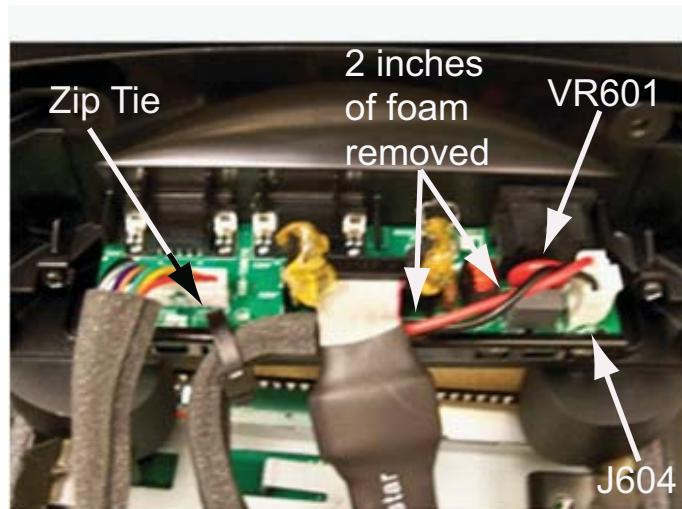

Figure 3.
**2.6** Zip tie the primary PWR cable to the I/O board bracket and route the cable behind the coated flat cable as shown in figure 3.